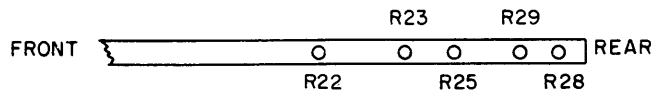

Figure 5-6. Frequency Shift Generator Adjustment Locations
(See figure 5-6.) Align the frequency shift generator as follows:
- (1) Place Z107 on extender card.
- (2) Connect frequency counter to vertical output terminals of scope. Place MODE switch in FSK position. On rear panel set R101 to mid-range; set SHIFT switch to ± 425 (maximum shift position); and set SENSE switch to + (up) position.
- (3) Place scope on J107-H and adjust potentiometer R16 for maximum level indication on the scope. Note location of adjustments as shown in figure 5-6. (These are 25-turn potentiometers.)
a. INTRODUCTION. Repair of the chassis-mounted power supply circuitry follows standard laboratory procedures. Repair of printed circuit cards and card receptacle wiring, however, require the special tools and techniques as outlined here. Section 6, Parts List, lists all replaceable parts and their circuit symbol numbers. These symbol numbers are shown on the schematics contained in Section 7 and located on figures 5-6 through 5-19.